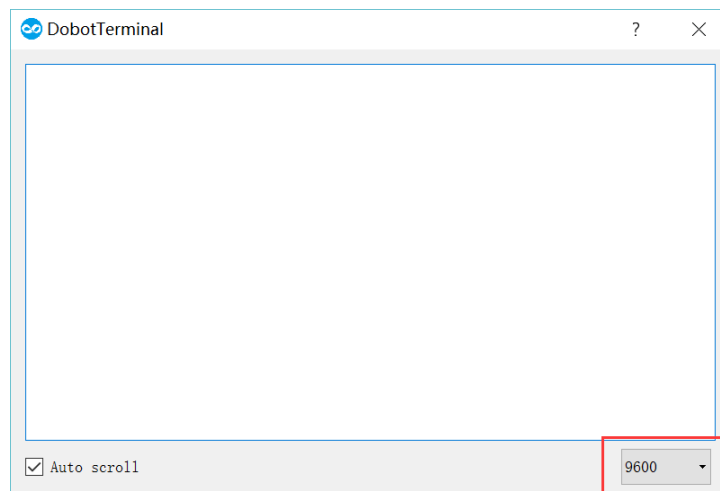

Figure7 DobotTerminal
1. Open "DobotTools/DobotTerminal.exe" after downloading the "BluetoothConfig.cpp.hex", and alter the baud rate to 9600, as shown in Figure7.